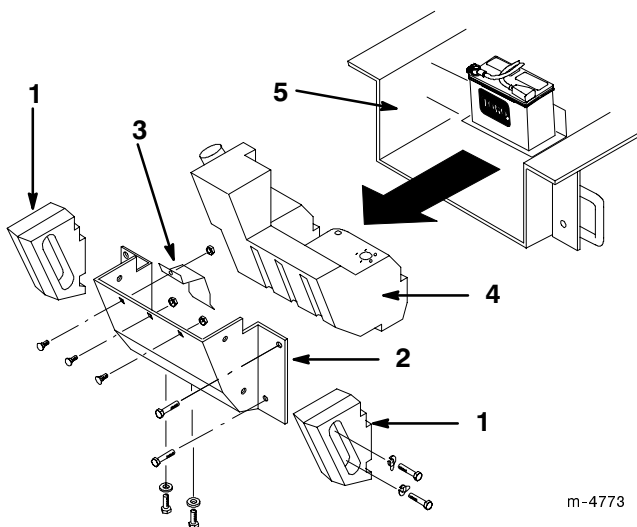

Figure 43
Over time, the chassis under the engine collects dirt and debris that must be removed. Using a flashlight, open the hood and inspect the area under the engine on a regular basis. When the debris is one to two inches deep, complete the following procedure (refer to Figure 43 throughout this procedure):
4. Remove the bolts, washers, and lock washers securing the two side weights, removing the weights (Fig. 43).
6. Remove the three carriage bolts and washers from the battery base and the fuel tank bracket, removing the bracket (Fig. 43).
7. Remove the six nuts and bolts securing the rear panel, removing the panel (Fig. 43).
10. Slide the fuel tank to the rear (Fig. 43).
16. Slide the fuel tank part way into the chassis (Fig. 43).
21. Replace the rear panel and secure it with the six bolts and nuts removed previously (Fig. 43).
22. Place the fuel tank bracket over the tank and secure it and the battery tray with the bolts and washers removed previously (Fig. 43).
23. Install the side weights with the bolts, washers, and lock washers removed previously (Fig. 43).